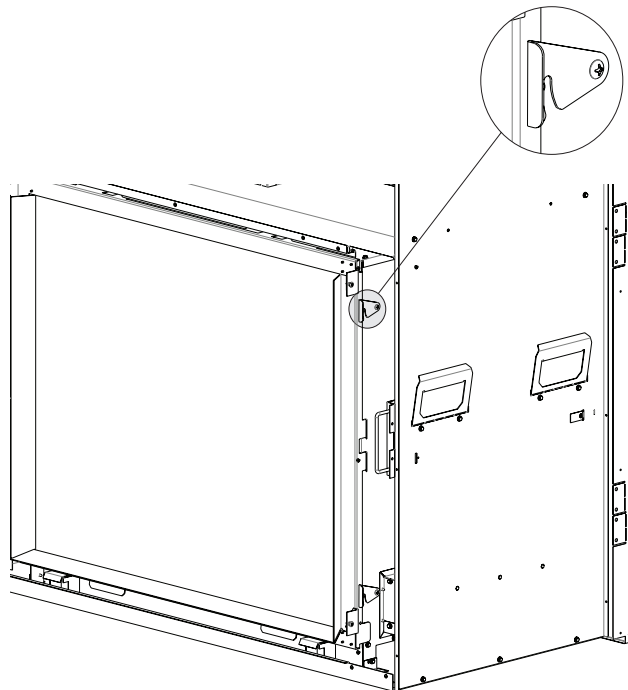

Figure 1B
3. Locate the door locks, 2 per side. **See Figure 1B.** Rotate door locks into place. Will require force. **See Figure 2.**